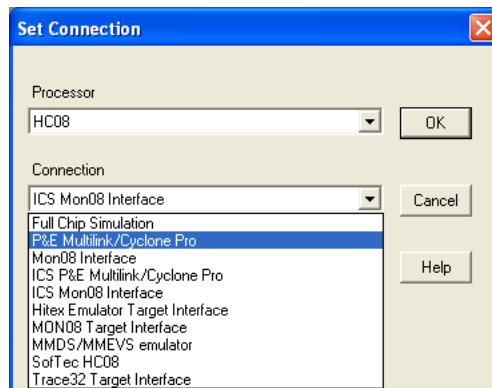

Figure 7-8: Set P&E Multilink/Cyclone PRO
1. Choose the P&E Multilink/Cyclone Pro option from the Set Connection dialog. See **Figure 7-8**.